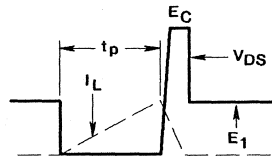

FIGURE 15. CLAMPED INDUCTIVE WAVEFORMS
4. $V_{DD} = 50\text{V}$, starting $T_J = +25^\circ\text{C}$, $L = 17\text{mH}$, $R_{GS} = 25\Omega$, $I_{PEAK} = 5.5\text{A}$. See Figure 15.